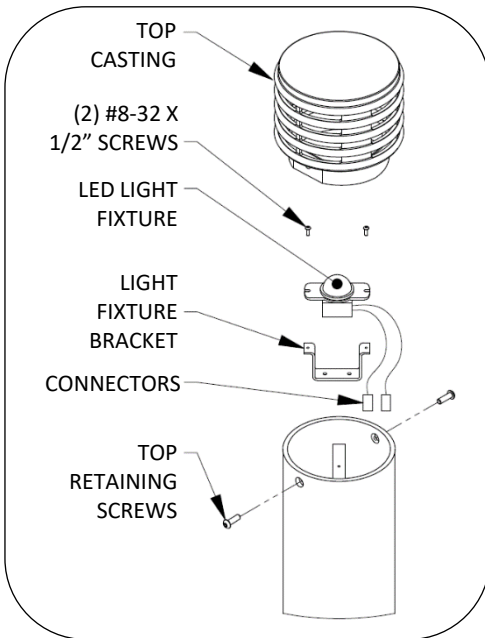

FIG.3 – REPLACING LED LIGHT DETAIL
1. Remove the two top retaining screws and top casting, see Fig. 3.